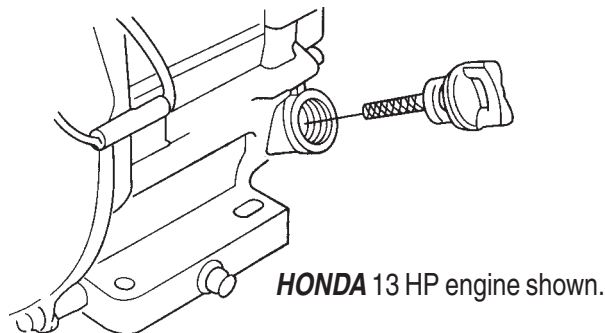

Figure 7. Engine Oil Dipstick (Removal)
2. Remove the filler cap/dipstick from the engine oil filler hole (Figure 7) and wipe it clean.